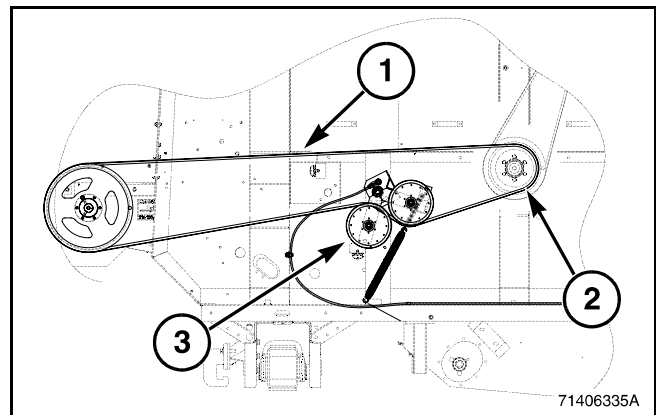

FIG. 40
FIG. 40: Remove the drive belt (1) from the drive sheave (2) and then from the driven sheave on the straw chopper rotor shaft. Remove the drive belt from the two idlers (3).